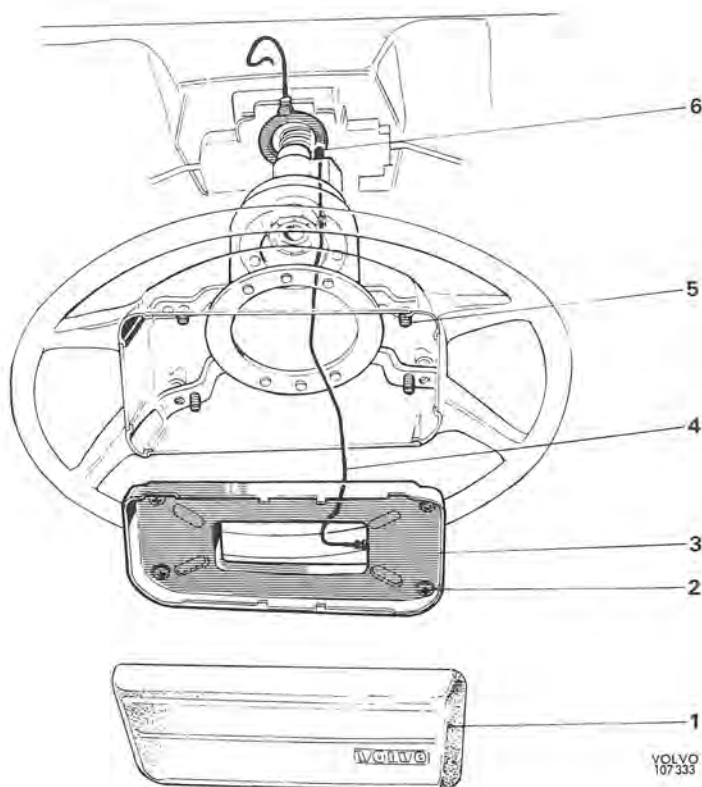

Fig. 3-95. Contact bar
1. Remove the cover pad (1, Fig. 3-95).
2. Disconnect the electric cable (4, Fig. 3-95) from the contact bar (3, Fig. 3-95).
3. Remove the four attaching screws (2, Fig. 3-95) for the contact bar and lift off the bar. Installation of the contact bar is in reverse order to removal. After installation, check the flasher function.